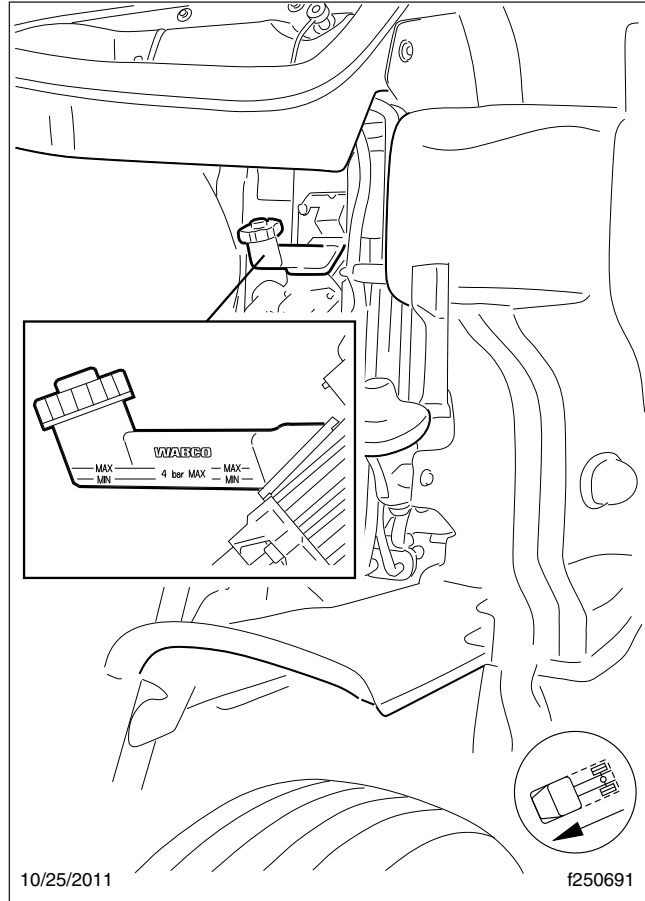

Fig. 4, Reservoir, Hydraulic Clutch Control
If the fluid level is below the MIN line, fill the reservoir with new DOT 4 brake fluid from a tightly sealed container until the level reaches the MAX line. See Fig. 4.
3. Remove the reservoir lid (see Fig. 4) and install the pressure bleed adaptor on the reservoir.
2. Remove the reservoir lid and fill the reservoir (see Fig. 4) with new DOT 4 brake fluid from a tightly sealed container.